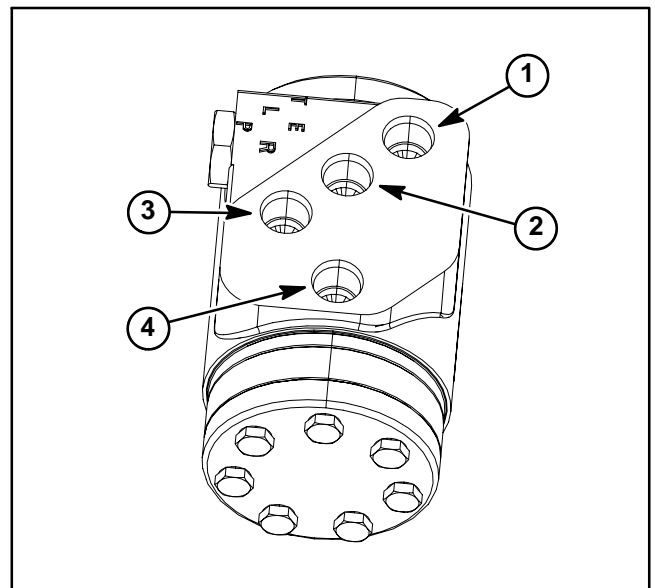

Figure 24
3. Label all hydraulic hoses for assembly purposes (Fig. 24). Clean hydraulic hose ends prior to disconnecting the hoses from the steering control valve.
6. Loosen and remove four (4) cap screws and lock washers that secure steering column and steering control valve to machine frame.
1. Position steering control valve to frame. Slide steering column to control valve. Secure steering column and control valve to frame with four (4) cap screws and lock washers.
3. Using labels placed during removal, connect hydraulic hoses to steering control valve (Fig. 24). Tighten hose connections (see Hydraulic Hose and Tube Installation in the General Information section of this chapter).